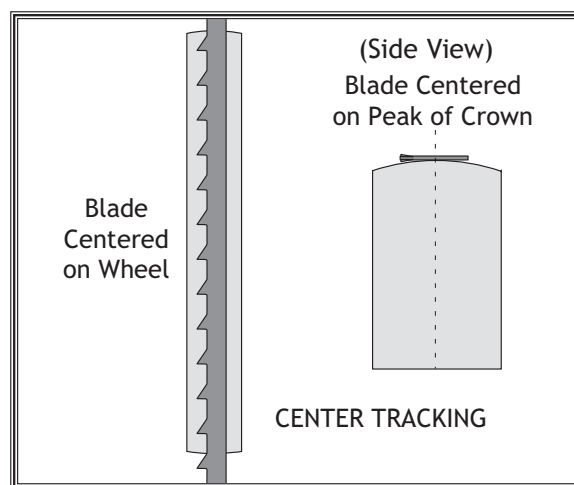

Figure 19. Center tracking profiles.
4. Open the upper wheel cover, then spin the upper wheel by hand at least three times and watch how the blade rides on the crown of the wheel through the tracking window. Refer to **Figure 19** for an illustration of this concept.